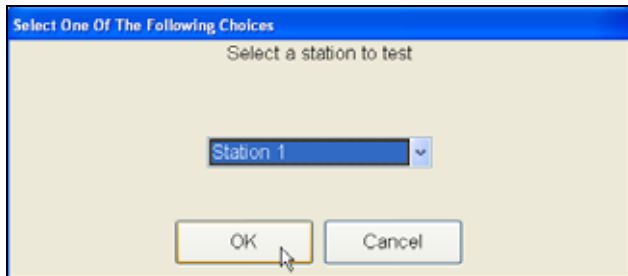

Figure 7.3.3
2. Select a single station only to test (Figure 7.3.3).